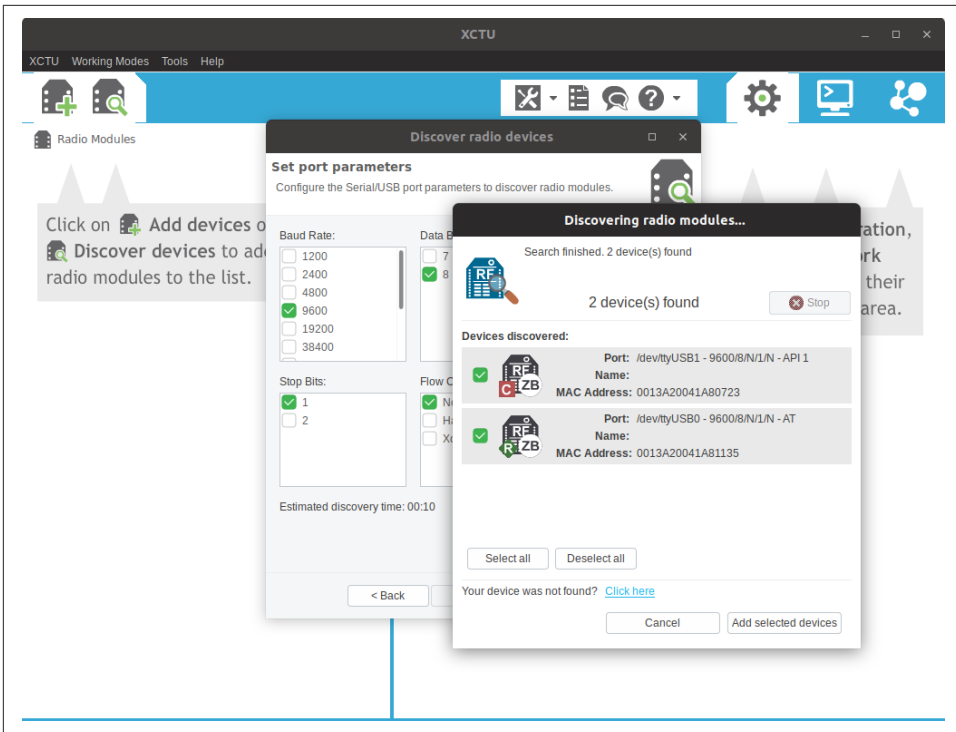

Figure 14-3. Discovering XBees connected to your computer
3. X-CTU scans the serial devices. When it's done, it will show a list of XBee(s) it discovered, and they will be selected by default, as shown in Figure 14-3. Make sure you've selected the one(s) you want to configure, and click Add Selected Devices.